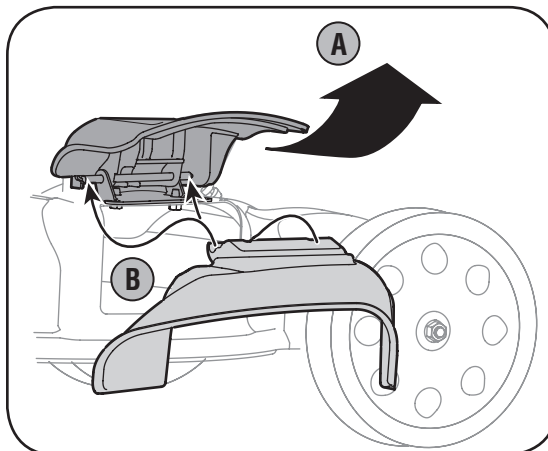

Figure 3-6: Installing the side discharge chute.
- b. Slide two hooks on side discharge chute under hinge pin on mulching plug assembly, Figure 3-6. Lower side mulching plug. Do not remove side mulching plug at any time even when you are not mulching.